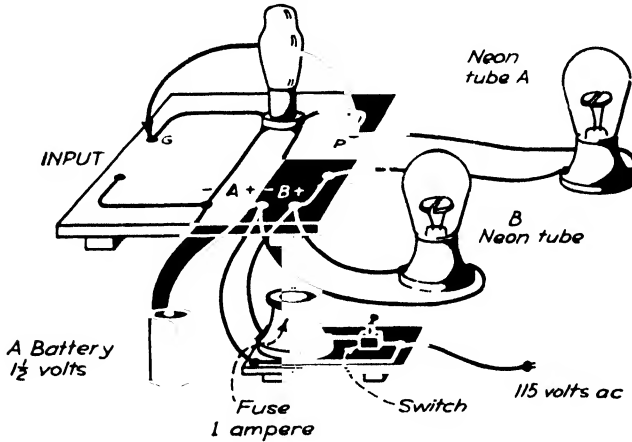

FIG. 252. Connect the tube this way to show how a triode tube can be made to rectify. The glow of the neon tube shows rectification.
Step 1. Use the set board and 1LE3 tube shown in Figs. 252 and 253.